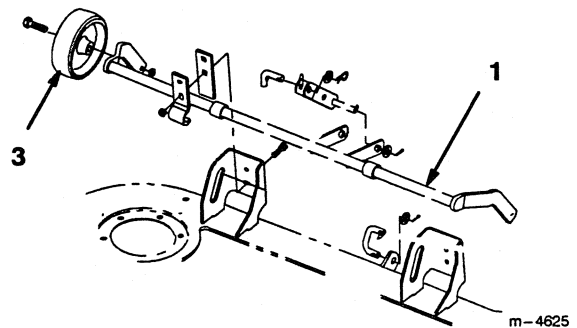

Figure 1
1. Remove existing wheel carrier from deck. Save hardware for installing new wheel carrier (Fig. 1).
2. Remove gage wheels from the existing wheel carrier (Fig. 1). Save gage wheels.